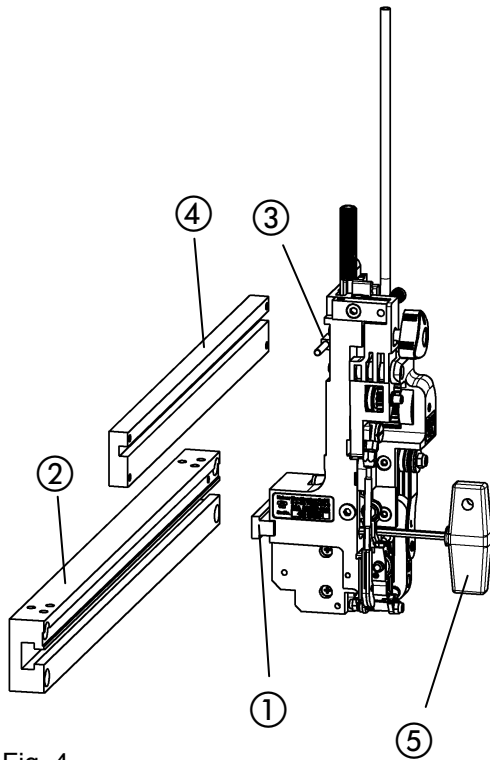
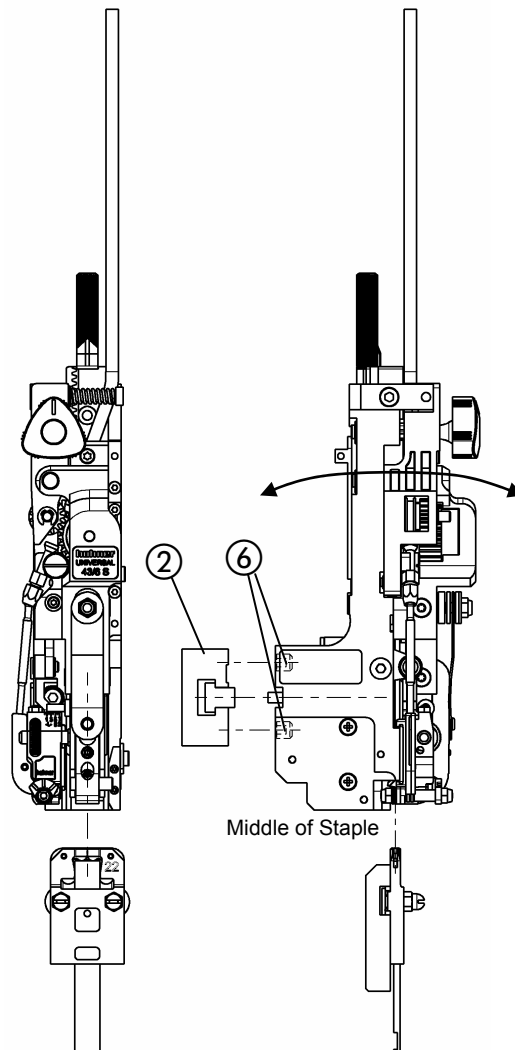

Fig. 4
Fig. 5
- Fig. 4 -
- Unscrew tenon block ① from the stitching head with Allan key SW4 ⑤.
- Introduce tenon block laterally into the stitching head mounting ②.
- Insert stitching head into stitching head mounting, so that the driver lug ③ can be inserted into the stroke bar ④ and the tenon block fits into the stitching head.
- Fix the stitching head by tightening the tenon block in the stitching head mounting using the Allan key ⑤.
- Fig. 4, Fig. 5 -
- Loosen the tenon block ① with the Allan key ⑤.
- Fix the tenon block in the stitching head mounting ② with the Allan key.
- Fig. 5 -